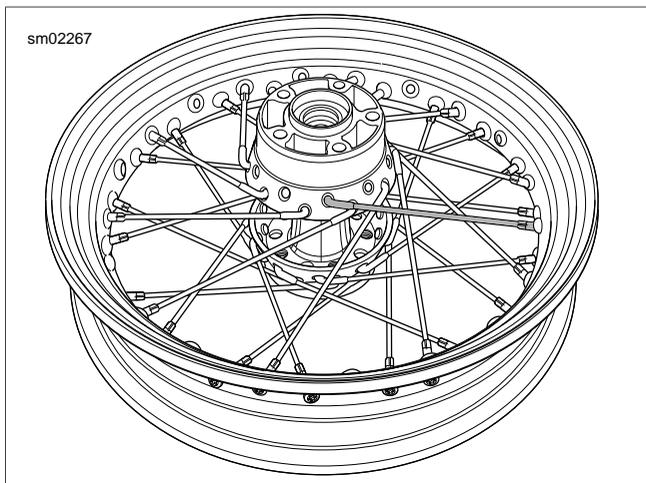

Figure 2-23. Sprocket Side Up: Start First Spoke of Top Row
- See Figure 2-23. Insert any **upper** row spoke into hub and angle spoke counterclockwise. Place spoke into appropriate rim hole.